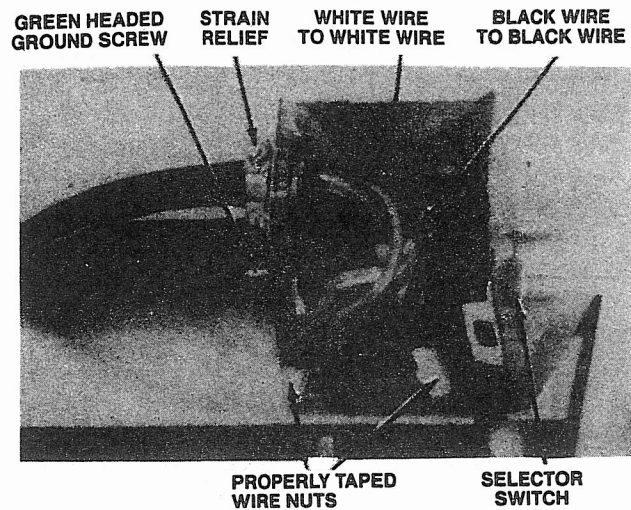

FIGURE 7
- D. Connect the power line to the black and white pigtail wires found in the control box using two wire nuts. **IMPORTANT** - Connect black wire to black wire and white wire to white wire. Install the ground wire (green to bare copper) to the green headed screw in the selector switch control box. Using a U.L. approved electricians tape, secure the wire nuts to the wires in a workmanlike manner (See Figure 7).